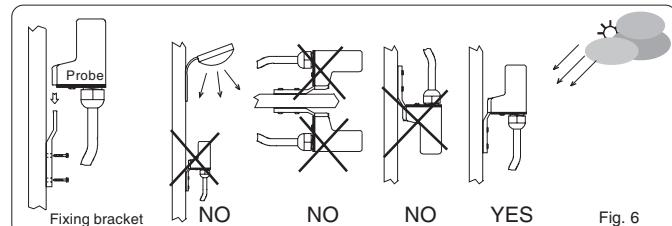

Fig. 6
- Fix the bracket to the wall (fig. 6).